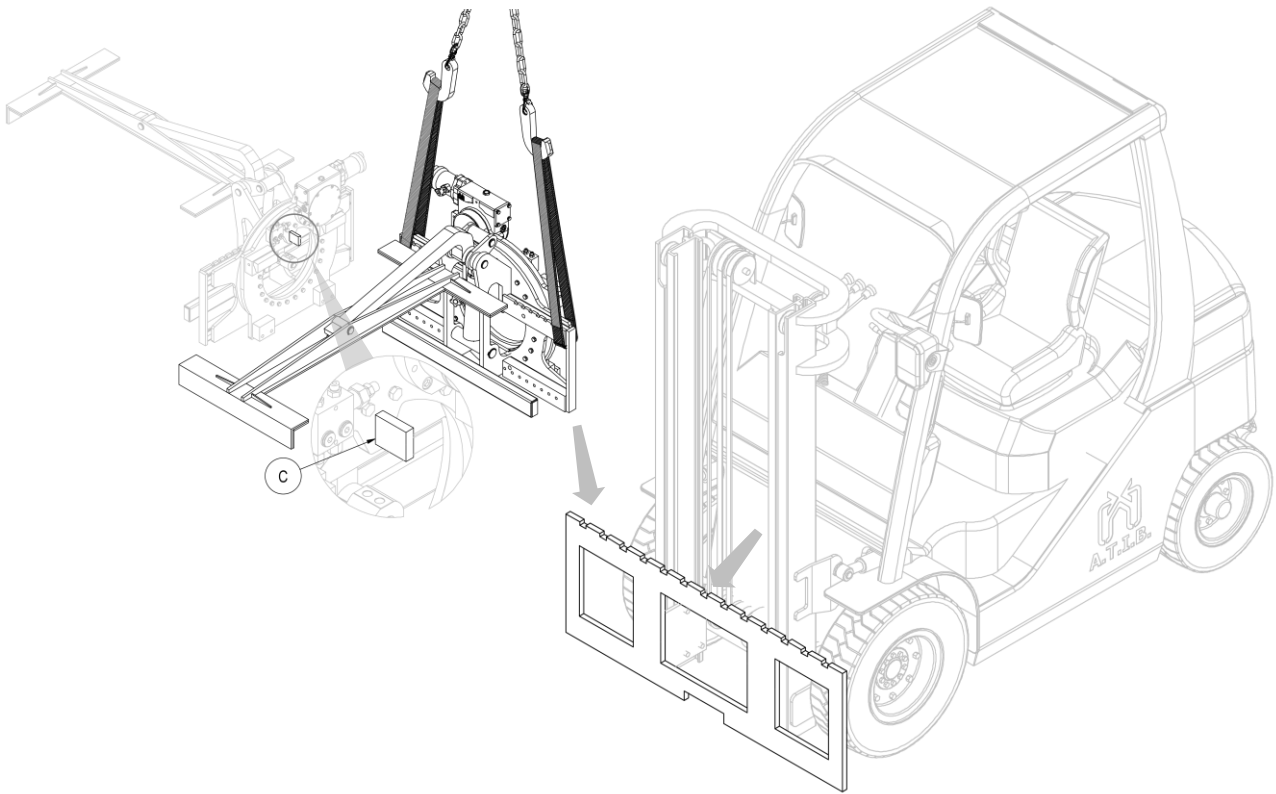

Figure 3
- Using an overhead crane or hoist of sufficient capacity, place the equipment on the fork carriage, taking care to engage the centring pin **C** in its central notch (see *Figure 3*).